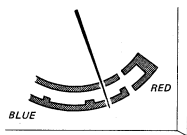

Fig. 8-2. Level meter setting
3. Adjust R532 so that the pointer of the level meter is positioned as shown in Fig. 8-2.